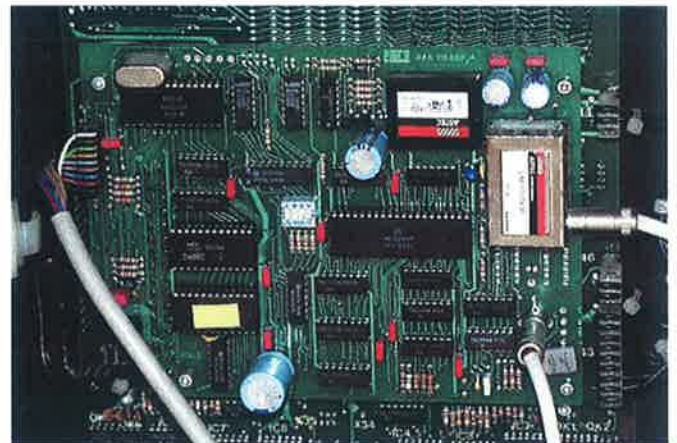

Fig 2 The video pcb
- 4) If you have a video pcb, refer to Fig 2